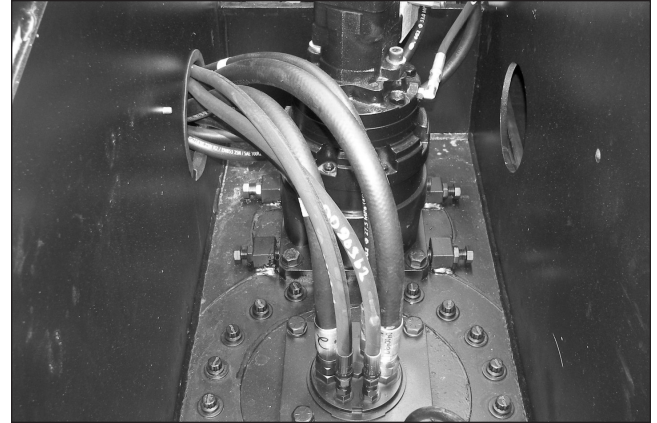

Figure 7.9 – Hoses, Tubes, and Fittings
- Inspect all hydraulic hoses, tubes, and fittings for wear, leakage, or damage (refer to Figure 7.9).